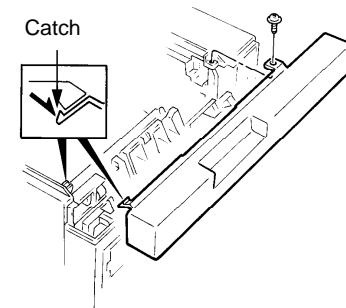

Figure 1. Upper right cover
4. Open the top cover and remove the screw retaining the upper right cover to the rear cover (figure 1).
5. Release the catch located towards the front of the machine (figure 1).